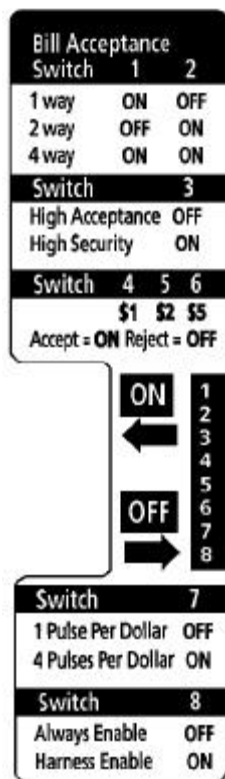

Figure 2
### 1. Set Bill Acceptor option switches. See Figure 2.
**Important note:** Placing any switch ON will override the above options, and the Bill Acceptor will operate according to the switch settings label! (See Figure 2)